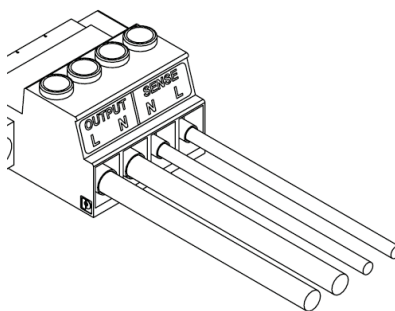

Figure 7-8: Inserting the Wires
5. Insert the wires into the terminals as shown in **Figure 7-8** and tighten the terminal screws securely using a tightening torque of 6.2–7 lbf-inch (0.7–0.8Nm).